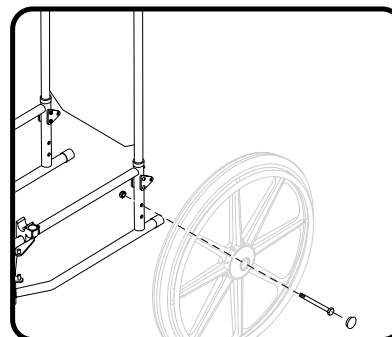

Figure 13. Bolt-on Drive Wheel
Bolt-on drive wheels are attached directly to the frame. See figure 13. Bolt-on drive wheels can be attached to the frame in one of two positions. When the drive wheel is in the top hole, the seat-to-floor height is 18.5 in. When the drive wheel is in the bottom hole, the seat-to-floor height is 19.5 in. Refer to the Seat-to-Floor Height Matrix — Bolt-on wheels.
2. Remove the nut from the bolt. See figure 13.